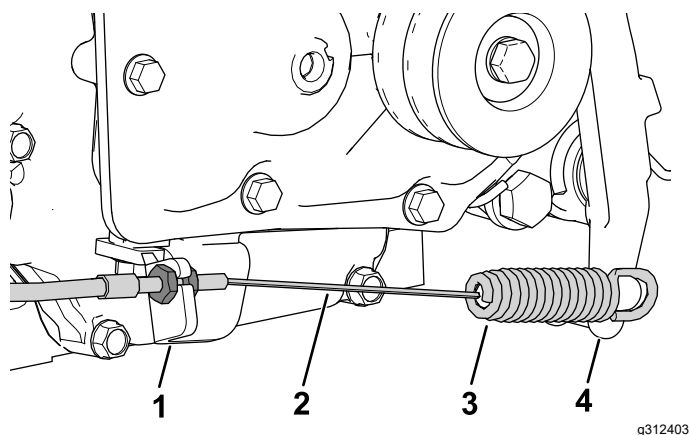

Figure 6
6. Install the clutch cable to the clutch plate (Figure 6).
11. Install the spring end of the clutch cable to the clutch lever (Figure 6).